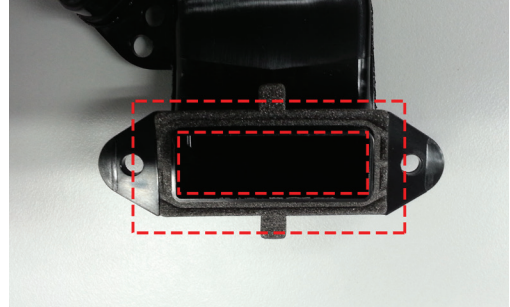

Figure 33. Port, Foam
2.1 Figure 33. A replacement is needed when the port is removed as the port foam will deform due to the pressure applied to it. Port Foam part 73533-0020.